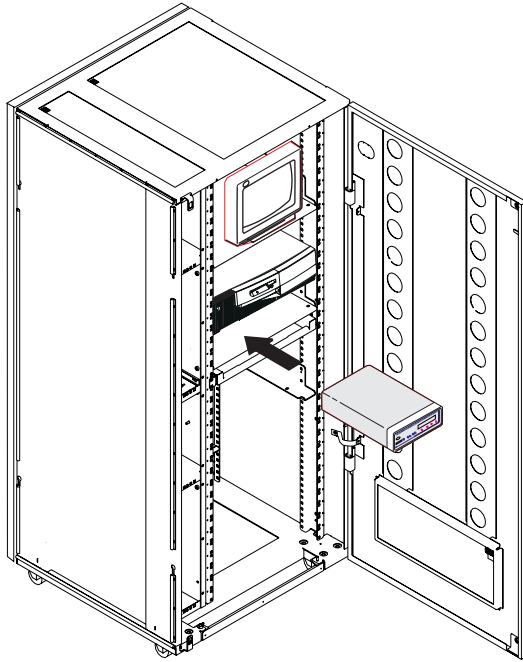

Figure 1-28. Installing the 7857 in the Controller Expansion
3. Slide the 7857 in the controller expansion as shown in Figure 1-28 on page 1-32.